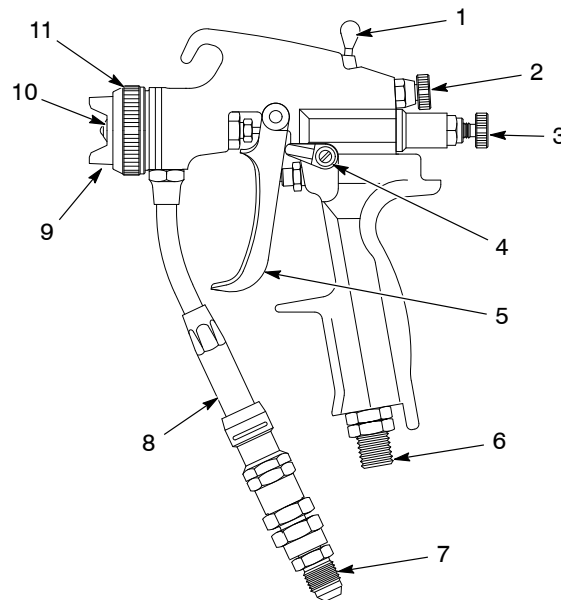

Figure 1 Spray Gun Components
1. See Figure 1. Rotate the trigger lock (4) 90 degrees downward.
2. Pull the trigger (5) to the first pressure point. Atomizing air starts flowing.